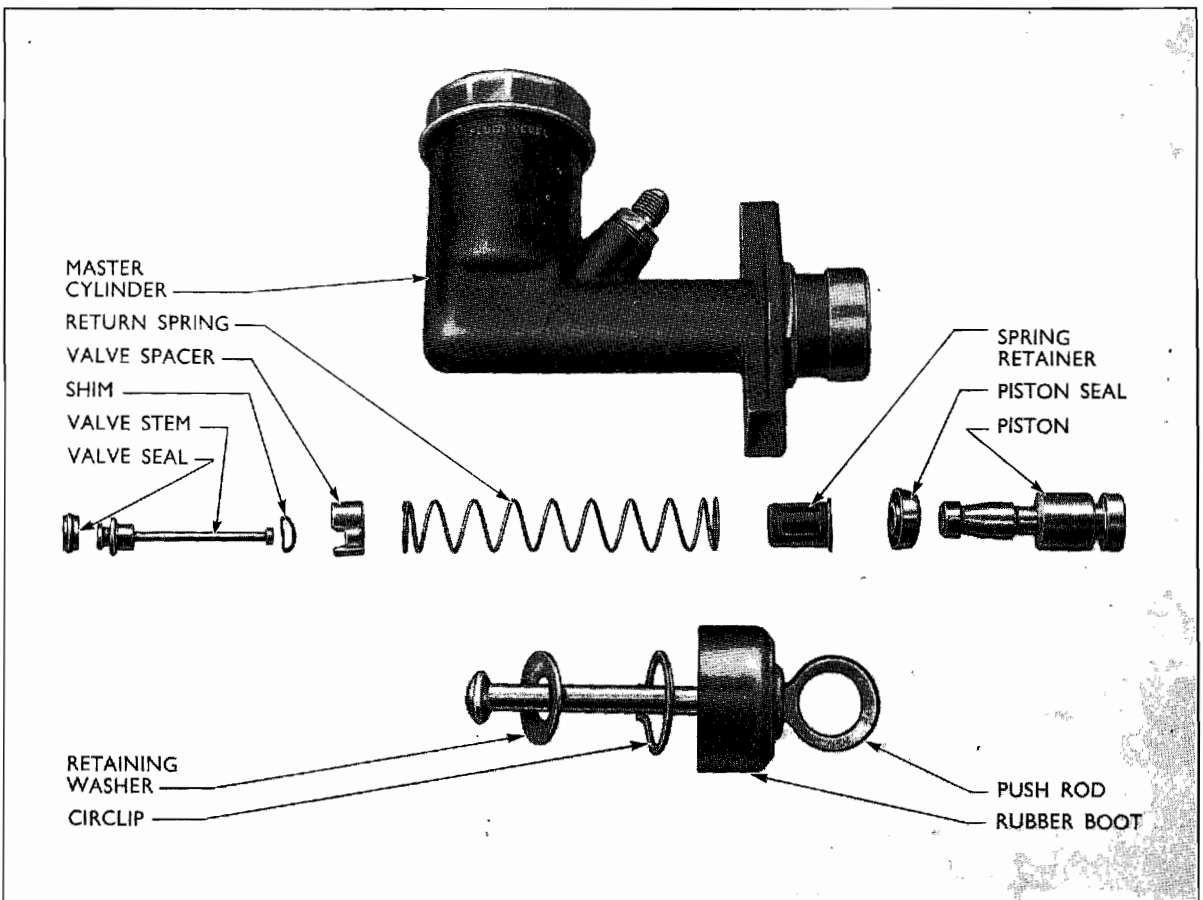

Fig. 4
The clutch master cylinder is bolted to the engine compartment rear bulkhead. The front spigot end of the piston accommodates the valve stem and carries the valve spring retainer. The return spring (under compression) is fitted between the spring retainer and the valve spacer at the forward end of the cylinder, see Fig. 4.
A reservoir port, drilled at the front of the cylinder, allows fluid from the integral reservoir to enter the cylinder. The pipe line to the clutch operating cylinder leaves the master cylinder at a port inclined at an angle to the master cylinder body, see Fig. 4.
3. Slide the shim, the valve spacer, with the legs over the valve seal, and the return spring, in this order, over the valve stem, see Fig. 4.